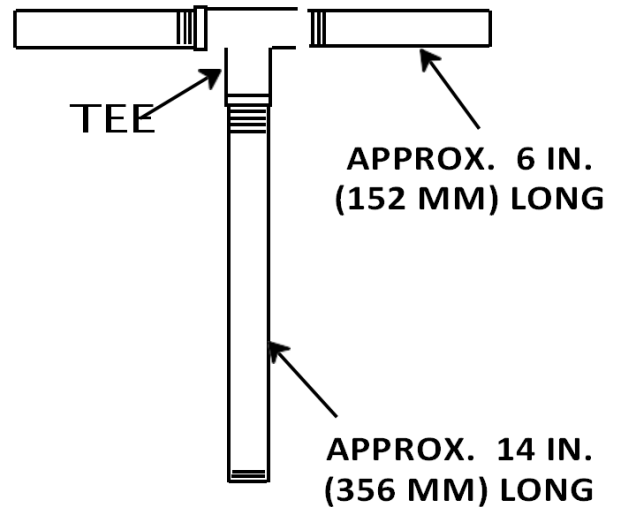

Figure 3. Rotating Assembly Tool
*An optional disassembly tool is available from the factory. If the tool is used, follow the instructions packed with it. A similar tool may be assembled using 1/2-inch pipe (schedule 80 steel or malleable iron) and a standard tee (see **Figure 3**). All threads are 1/2-inch NPT. Do not pre-assemble the tool.*